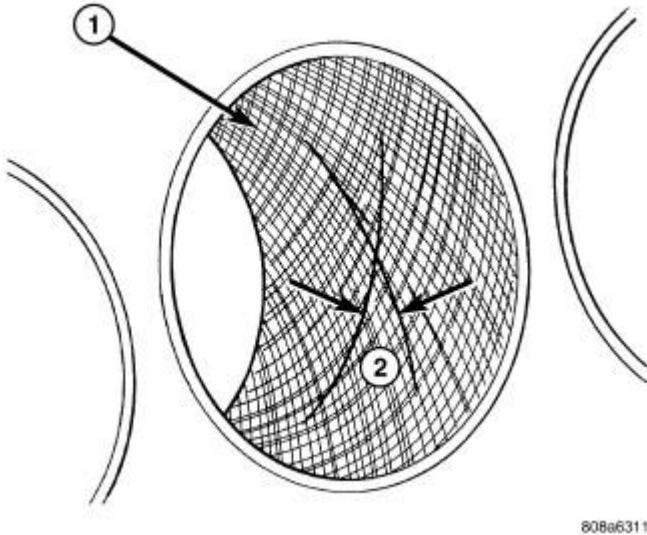

Fig. 204: Cylinder Bore Cross-Hatch Pattern
2. Honing should be done by moving the hone up and down fast enough to get a cross-hatch pattern. When hone marks **intersect** at 30-50 degrees, the cross hatch angle is most satisfactory for proper seating of rings. Refer to **Fig. 204**.